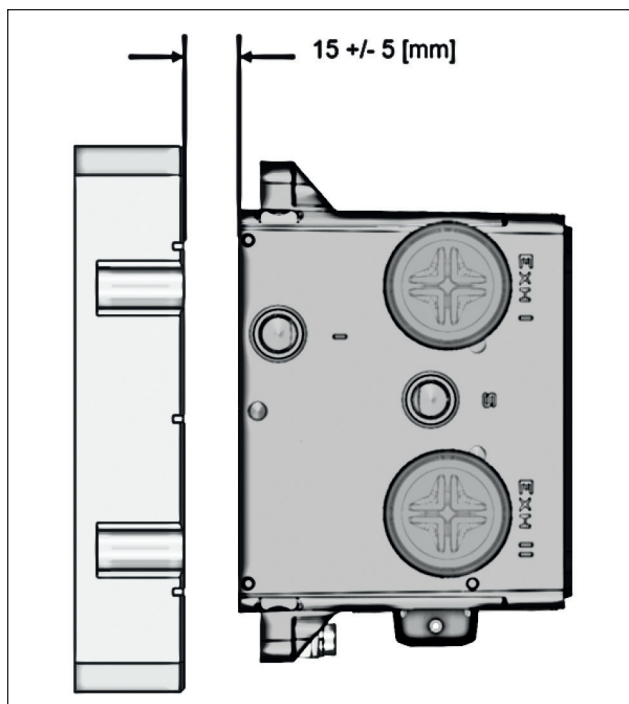

Fig. 27.
4. Check that following magnet alignment requirements are not exceeded. See fig 27.
Figure 27 shows the exclusion zone. There is no material limitation outside the exclusion zone, but to guarantee the optimal performance do not use any magnetic material inside the zone. Inside the exclusion zone but close to the "walls" AISI 304 and any austenitic steel can be used.